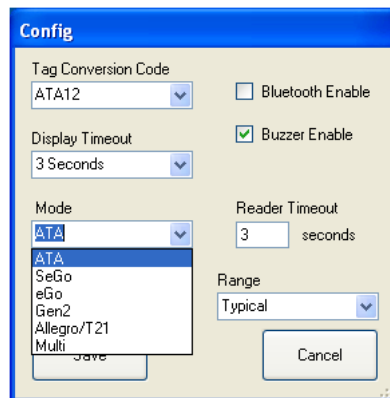

Figure 6 FCSW Configuration Mode Choices
- The **Mode** parameter is used to select the RFID protocol being used to read tags. Figure 6 shows the **Mode** drop down menu. The default is *ATA Mode*.